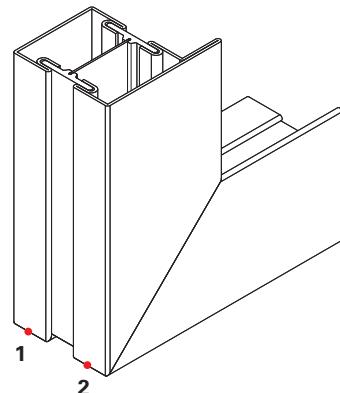

Fig. 79 *Tack the corners (1 and 2) on the outside*
2. Tack the corners on the outside and door sill joints on the profile surface on the inside (Fig. 79 / 80)